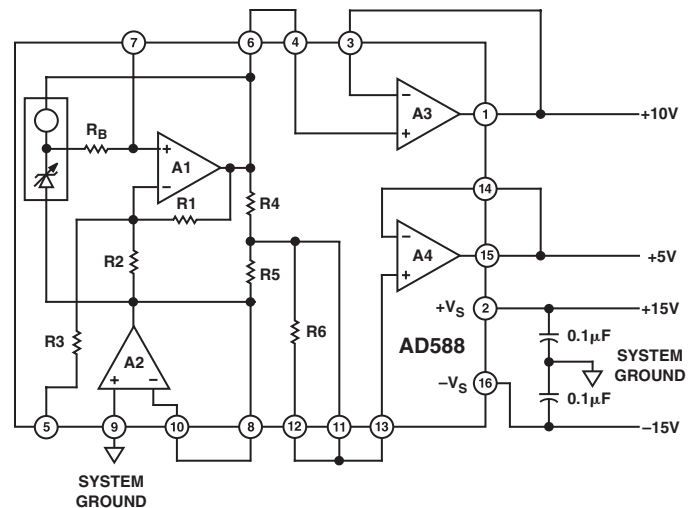
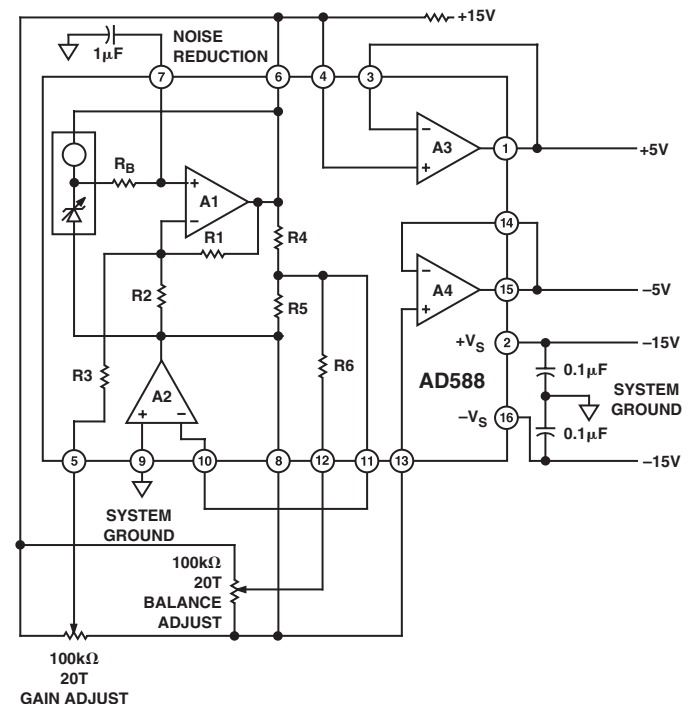
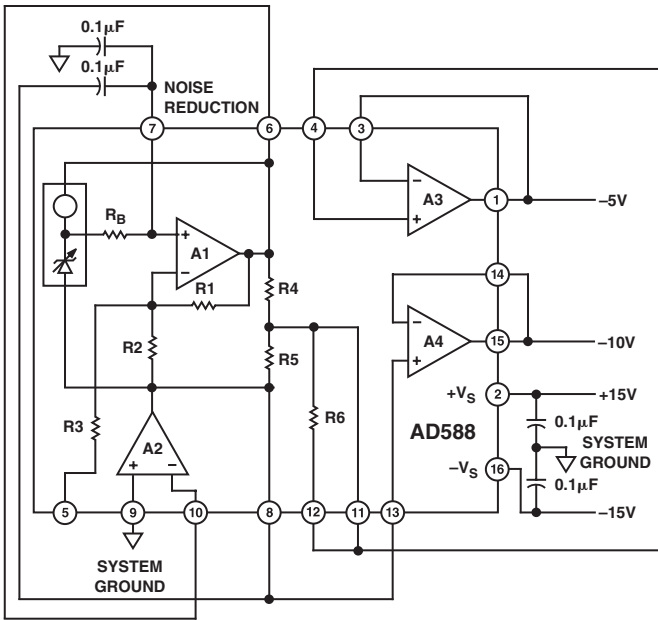
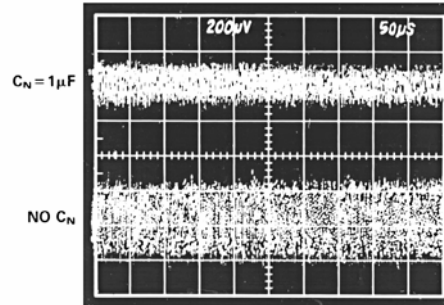

Figure 2a. +10 V Output
Figure 2b. +5 V and -5 V Outputs
Figure 2c. -10 V Output
Figure 4. Effect of 1 μF Noise Reduction Capacitor on Broadband Noise
+10 V	Figure 2a
-10 V	Figure 2c
+5 V, -5 V, ±5 V	Figure 2b
The AD588 can be configured to provide +10 V and -10 V reference outputs as shown in Figures 2a and 2c, respectively. It can also be used to provide +5 V, -5 V, or a ±5 V tracking reference, as shown in Figure 2b. Table I details the appropriate pin connections for each output range. In each case, Pin 9 is connected to system ground and power is applied to Pins 2 and 16.
The architecture of the AD588 provides ground sense and uncommitted output buffer amplifiers that offer the user a great deal of functional flexibility. The AD588 is specified and tested in the configurations shown in Figure 2a. The user may choose to take advantage of the many other configuration options available with the AD588. However, performance in these configurations is not guaranteed to meet the extremely stringent data sheet specifications.
As indicated in Table I, a +5 V buffered output can be provided using amplifier A4 in the +10 V configuration (Figure 2a). A -5 V buffered output can be provided using amplifier A3 in the -10 V configuration (Figure 2c). Specifications are not guaranteed for the +5 V or -5 V outputs in these configurations. Performance will be similar to that specified for the +10 V or -10 V outputs.
Amplifiers A3 and A4 can be used interchangeably. However, the AD588 is tested (and the specifications are guaranteed) with the amplifiers connected as indicated in Figure 2a and Table I. When either A3 or A4 is unused, its output force and sense pins should be connected and the input tied to ground.
Figure 2b shows GAIN and BALANCE trims in a +5 V and -5 V tracking configuration. A 100 kΩ 20-turn potentiometer is used for each trim. The potentiometer for GAIN trim is connected between Pin 6 (V_{HIGH}) and Pin 8 (V_{LOW}) with the wiper connected to Pin 5 (GAIN ADJ). The potentiometer is adjusted to produce exactly 10 V between Pin 1 and Pin 15, the amplifier outputs. The BALANCE potentiometer, also connected between Pin 6 and Pin 8 with the wiper to Pin 12 (BAL ADJ), is then adjusted to center the span from +5 V to -5 V.
If further noise reduction is desired, an optional capacitor, C_N , may be added between the NOISE REDUCTION pin and ground, as shown in Figure 2b. This will form a low-pass filter with the 4 kΩ R_B on the output of the Zener cell. A 1 μF capacitor will have a 3 dB point at 40 Hz and will reduce the high frequency (to 1 MHz) noise to about 200 μV p-p. Figure 4 shows the 1 MHz noise of a typical AD588 both with and without a 1 μF capacitor.
Note that a second capacitor is needed in order to implement the NOISE REDUCTION feature when using the AD588 in the -10 V mode (Figure 2c.). The NOISE REDUCTION capacitor is limited to 0.1 μF maximum in this mode.